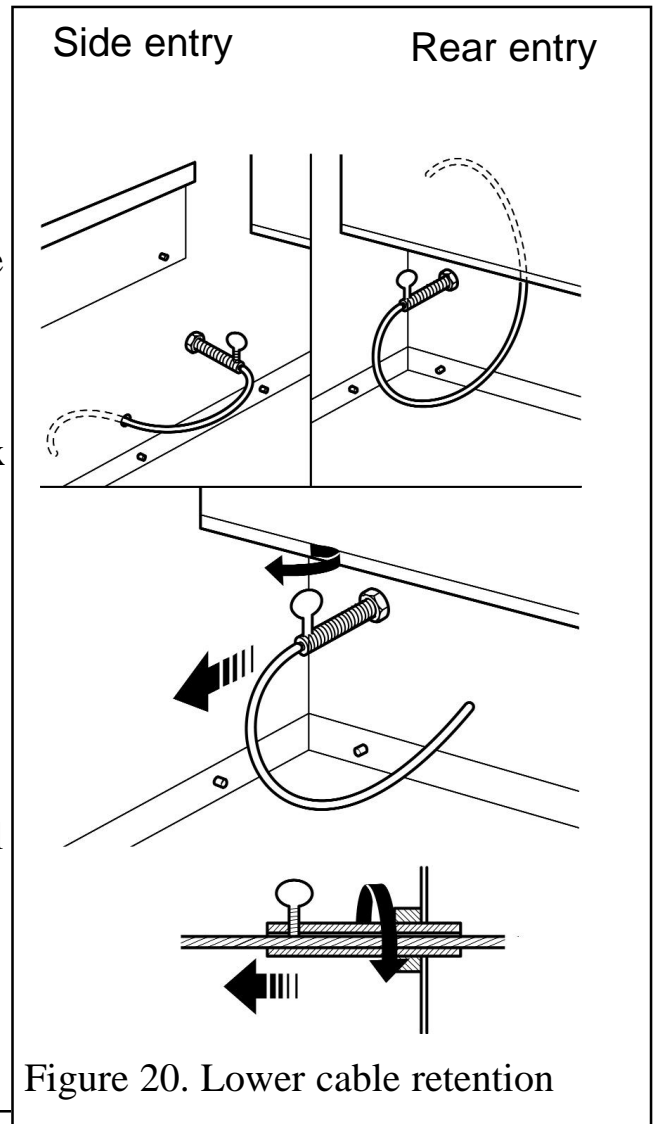

Figure 20. Lower cable retention
11. Pull each cable taut. Push the cable retainers hard up against the back panel. The end of the cable adjuster will pass into the hole. Tighten the screws in the retainers so that they clamp the cables in position. Apply tension to the cables by turning the hexagonal adjusters by hand (See figure 20).
14. Feed the free length of the cables into the gap between the inner and outer back panels so that they are available to allow easy removal and refitting of the appliance during subsequent service calls. **Do not cut off the free lengths of cable.** On precast flue installations feed the cables into the small holes at the base of the side panels (See figure 20)